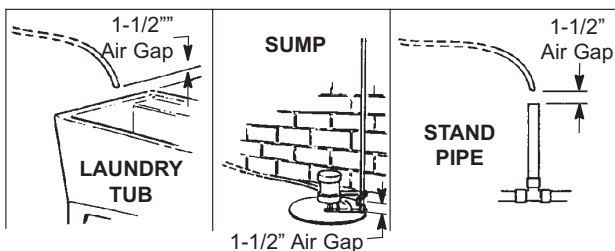

FIG. 8
- a. Take a length of 5/8" inside diameter garden hose and attach to the valve drain fitting (See Figure 8 on page 6).
- b. Locate the other end of the hose at a suitable drain point (floor drain, sump, laundry tub, etc.). Check and comply with local codes. Refer to Figure 8 on page 6 if codes require a rigid pipe drain run.
- b. Place bypass valve(s) into "bypass" position. On a single valve, slide the stem inward to BYPASS (See Fig. 8 on page 6). On a 3 valve system, close the inlet and outlet valves, and open the bypass valve (See Fig. 7 on page 6).